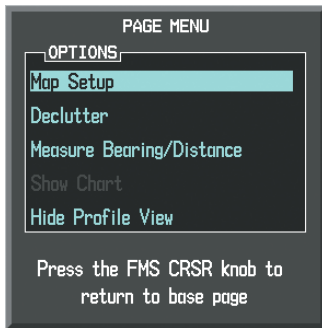

Figure 6-79 Navigation Map Page Menu
- 3) With 'Map Setup' highlighted, press the **ENT** Key (Figure 6-79).